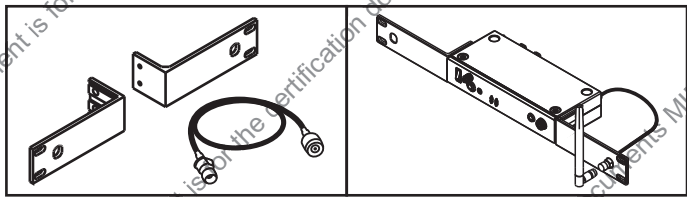

Fig. 3
- (B) Install an optional FB-71 rear-to-front rackmount kit with cable. Attach supplied antenna to the front for improved optimal transmitting efficiency as Fig. 3: